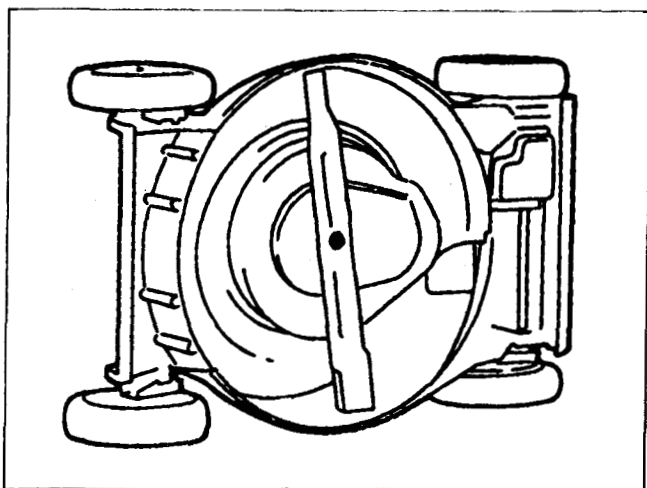

Figure 18
3. Tip the mower on its right side. See Figure 18.